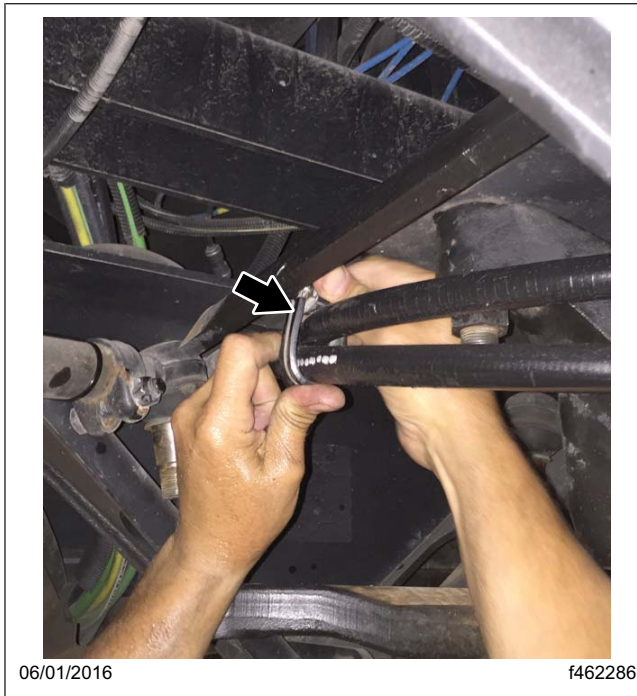

Fig. 16, Mounting the Hydraulic Hoses to the Frame
12. Using a P-clip, mount the hydraulic hoses to the frame. See Fig. 16